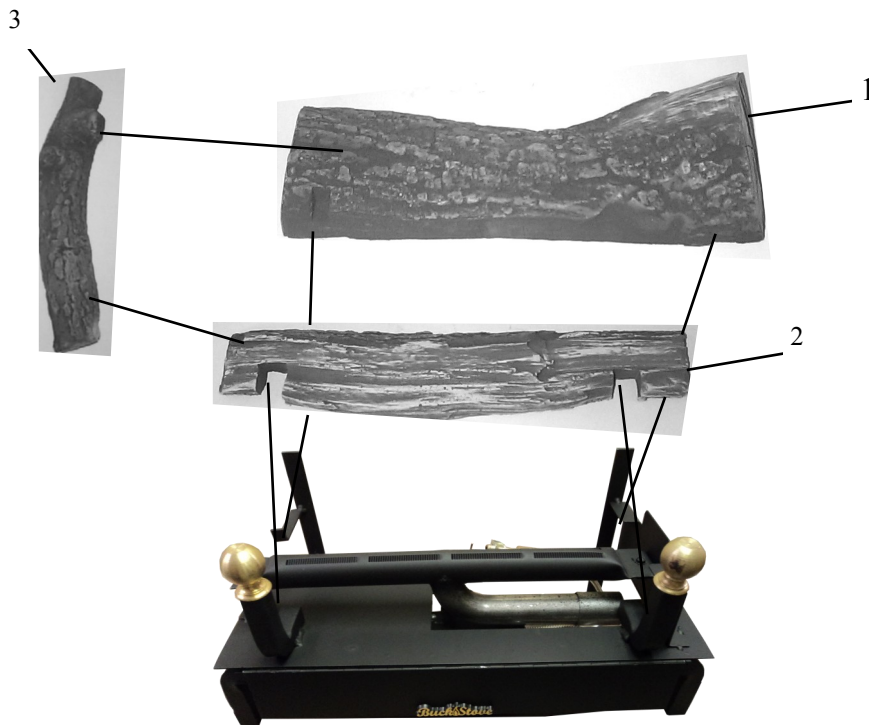

Figure 2
**CR8T (1) REAR LOG (2) FRONT LOG (3) LEFT TOP LOG**
**WARNING:** POSITIONING OF LOGS IS VERY CRITICAL (FIGURE 2).